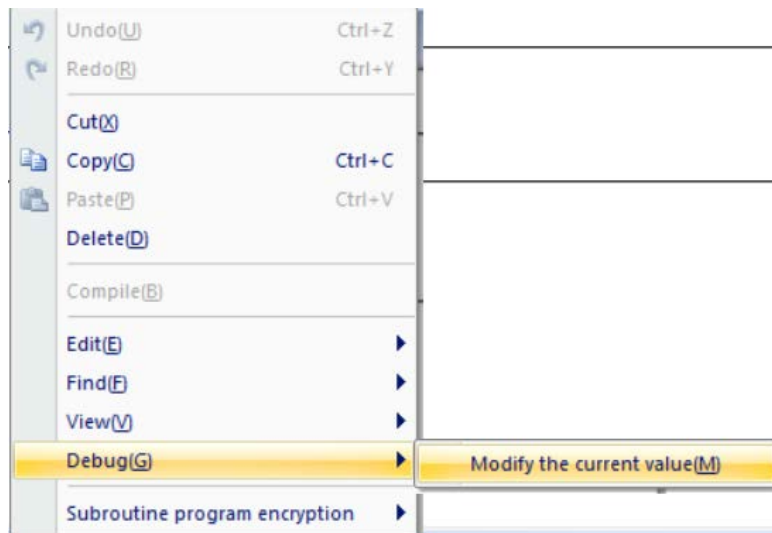

Figure 2-27
- 5) Select [Debug]->[Modify the current value], as Figure 2-27 shows;